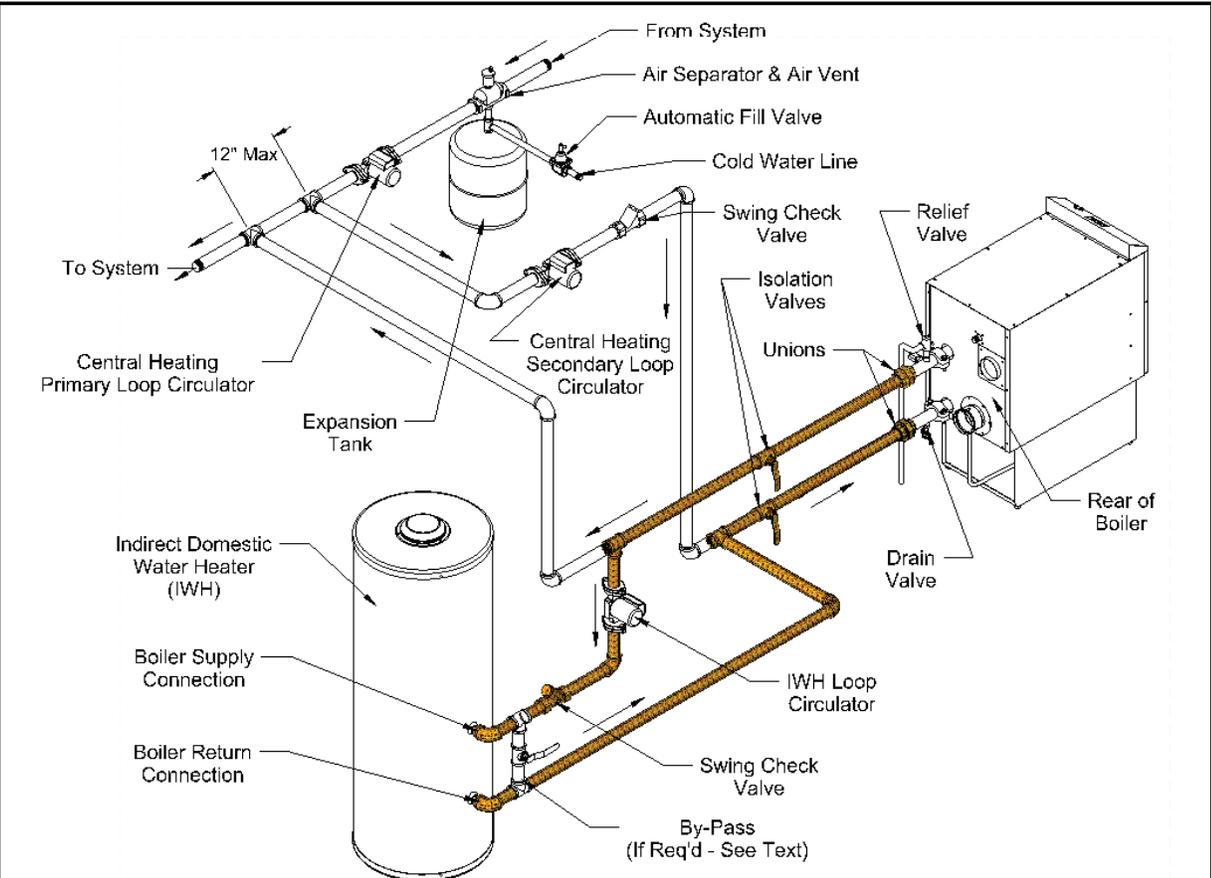

Figure 8.4b: Piping Method #1 - Indirect Water Heater Loop Piping (Shaded)
- 3) Indirect Water Heater Loop Piping (If Indirect Water Heater is Used) – The indirect water heater loop piping is shown shaded in Figure 8.4b. Some of the piping in this loop is common to the secondary loop sized above. Piping common to both loops is always sized from Table 8.5, column (a) as described above. All indirect water heater loop piping that is not common (the “I.W.H branch”) is sized from Table 8.7, column (a). If the indirect water heater connections are smaller than the pipe size called for in Table 8.7, column (a), reduce the pipe size at the indirect water heater connections. To size the circulator:
- a) Count all fittings in the planned Indirect Water Heater Loop (all shaded piping in Figure 8.4b). In doing so, you will be counting some piping and fittings which are common to the heating system secondary (“boiler loop”) piping and which were counted in Step 2a above. Do not count the fittings supplied with the boiler. If Table 8.7 requires a bypass, do not count the pipe and fittings in the by-pass.